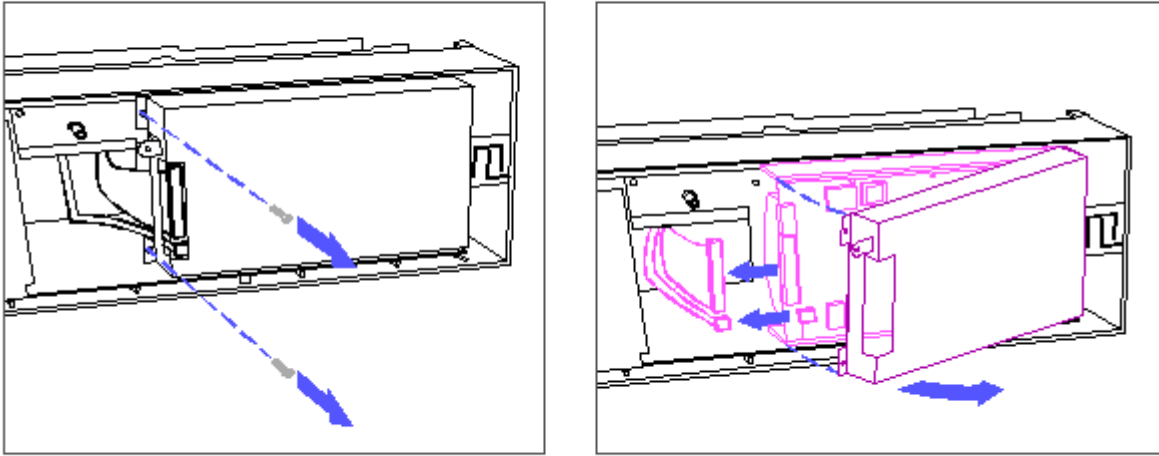

Figure 5-18. Removing the Fixed Disk Drive
2. Carefully disconnect the two cables from the fixed disk drive (Figure 5-18).
3. Using a Torx T-15 screwdriver, remove the screws securing the fixed disk drive cage; then swing the drive cage out (Figure 5-18).